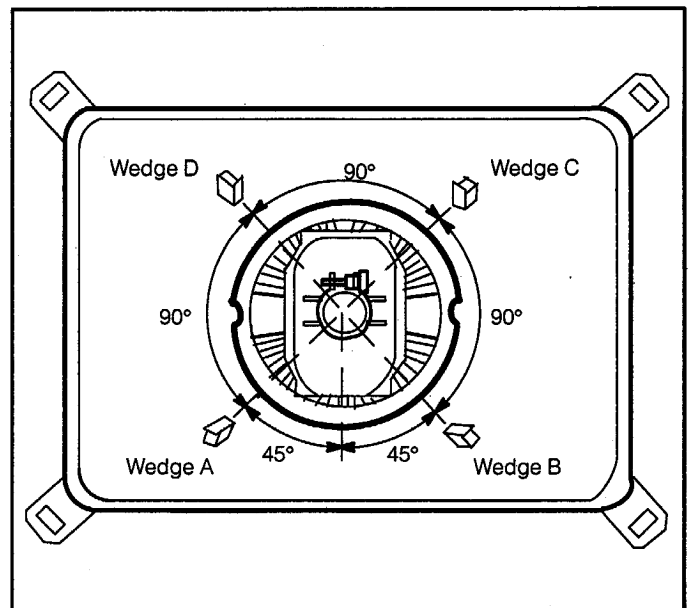

Fig. 16
7. Fix the deflection yoke by reinserting the DY wedges. (See Fig. 16)
1. Wedge A shown in **Fig. 16** should be fixed within a range of 45 ° to the left of the vertical line as shown.